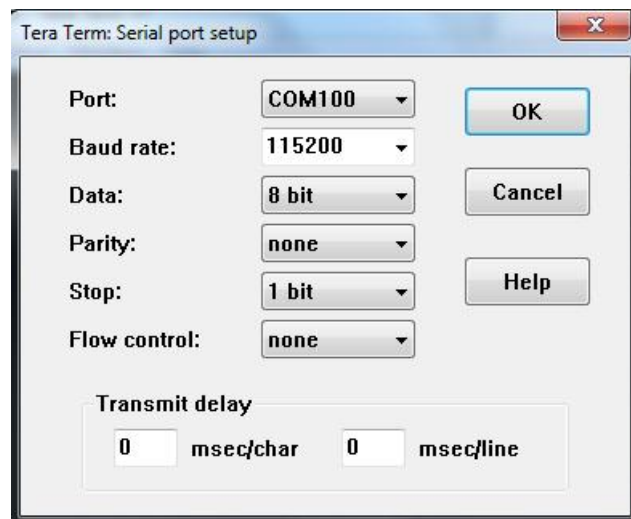

Figure 11. Serial Port Setup for CLI
2. Setup the serial port with baud rate 115200 as shown in Figure 11.